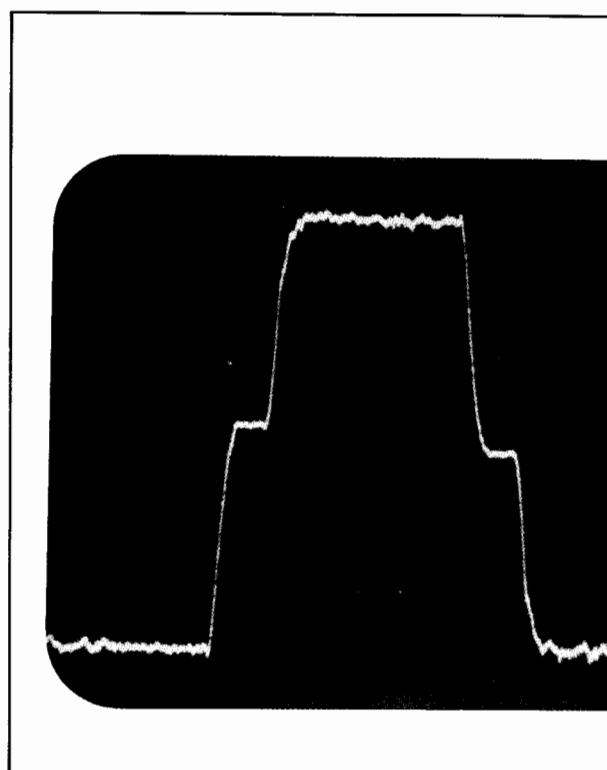

Figure 29. XC and YC Adjustment
3. Adjust the XC potentiometer such that the X-error signal has a flat top (see Figure 29) on both sides.
4. Connect the oscilloscope to TPY and adjust the YC such that the Y error signal has flat top (see Figure 29) on both sides.